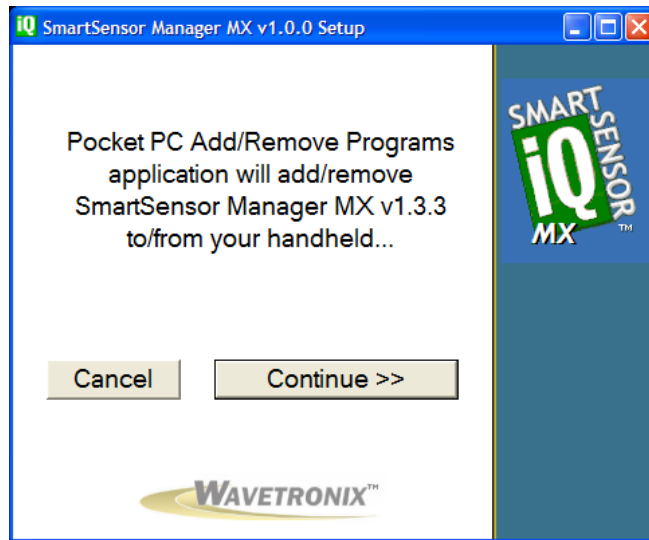

Figure 3.6 - Adding SSMMX to a Pocket PC (New Screenshot Needed)
4. Click **Continue>>** to start the Pocket PC installation process (see Figure 3.6). The setup program runs the Add/Remove Programs application for Windows handheld devices. If a Pocket PC device is connected to the computer, Add/Remove Programs will immediately begin installing SSMMX on the Pocket PC device. If a Pocket PC device is not connected to the computer, SSMMX will be downloaded the next time a Pocket PC device is connected to the computer.